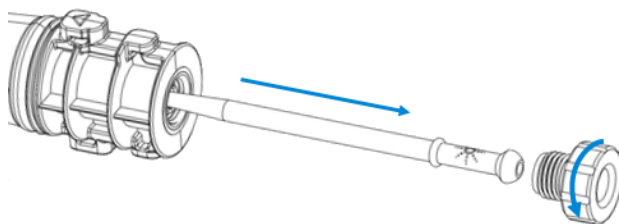

Figure 7 Unscrew the locking nut and remove the injector
2. Unscrew the locking nut from the torch body and remove the injector by gently pulling on the ball joint as shown in Figure 7.